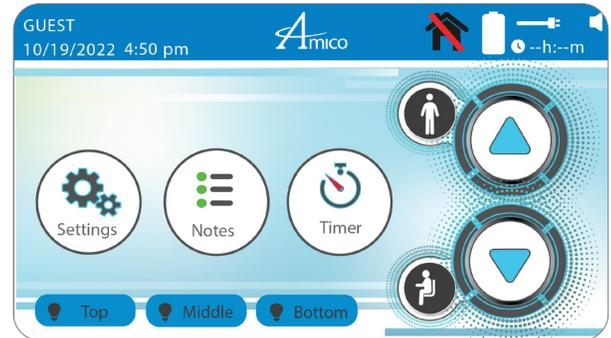

Figure 1
1. Tap on **“GUEST”** in top left corner of interface (Figure 1).